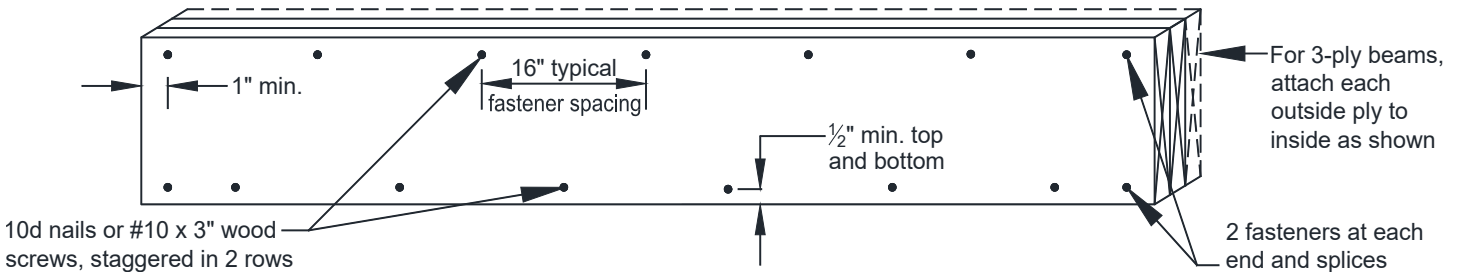

FIGURE 14: BEAM PLY FASTENING
- The plies of the beam shall be fastened in accordance with FIGURE 14.